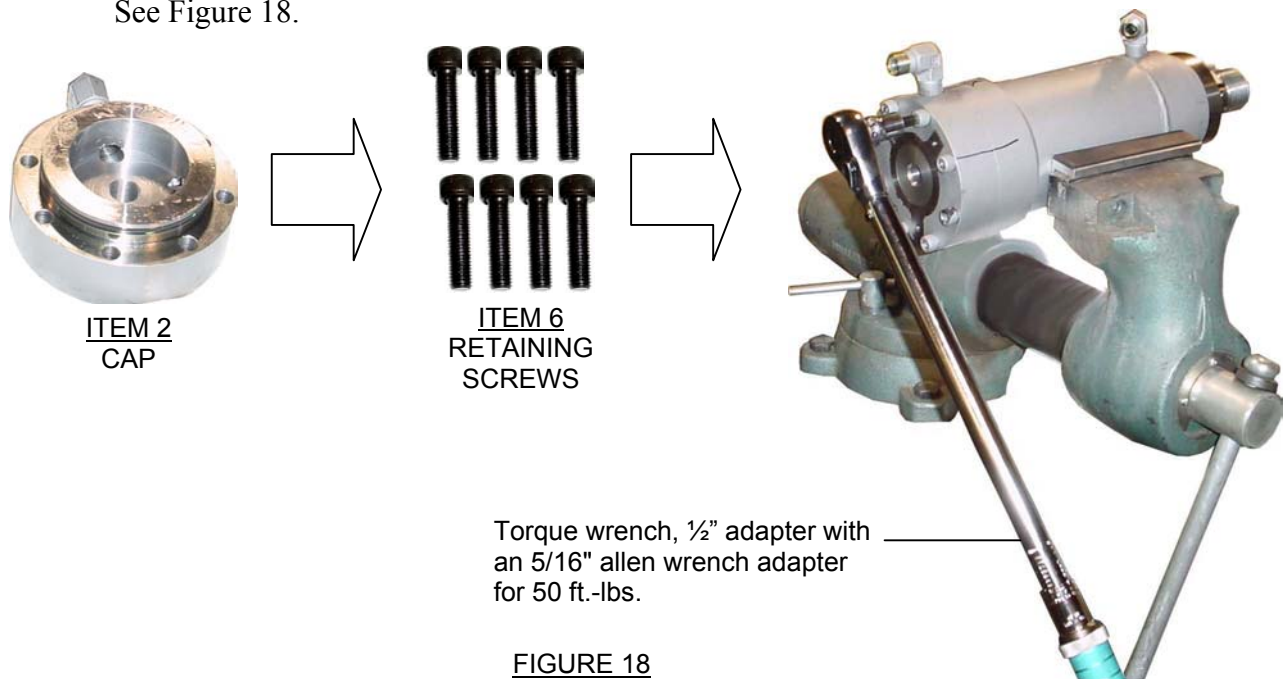

FIGURE 18
After the tube seal o-ring and the tube seal back-up are installed in the cap, carefully place the cap (Item 2) onto the tube (Item 1) and tighten the (8) cap retaining screws (Item 6) to 50ft. lbs using a torque wrench with a 1/2" drive and a 5/16" allen wrench adapter. Always tighten screws across from each other, rather than adjacent, to allow a more uniform pressure on the tube seal o-ring. See Figure 18.